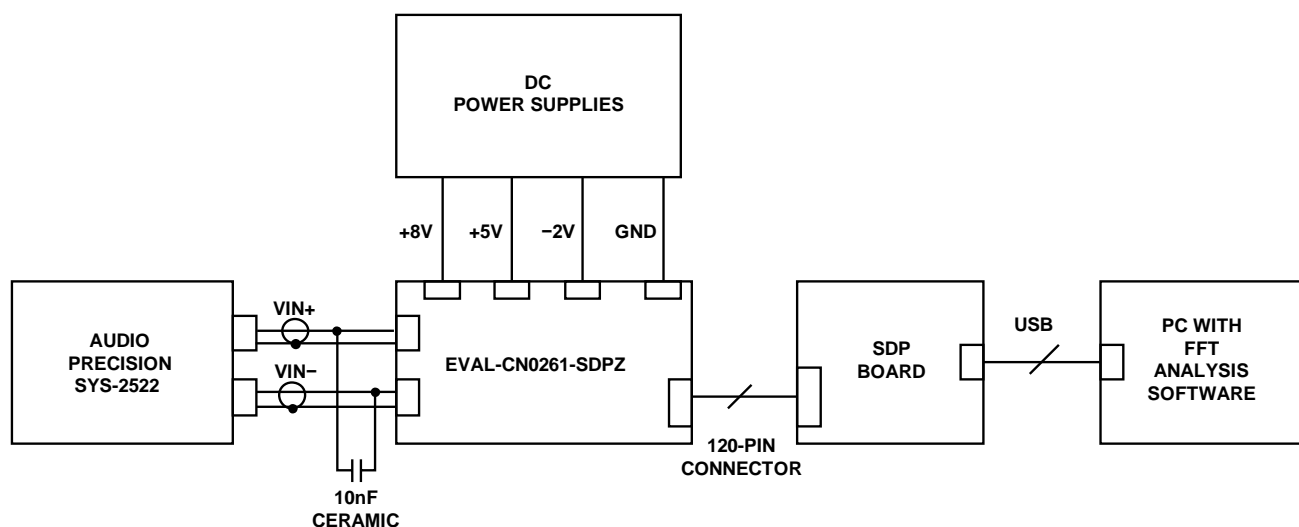

Figure 4. Test Setup for Measuring AC Performance
- External 10 nF ceramic filter capacitor as shown in Figure 4
The block diagram of ac performance measurement setup is shown in Figure 4. The EVAL-CN0261-SDPZ board is driven with bench supplies as shown. Complete documentation for the board can be found at www.analog.com/CN0261-DesignSupport.